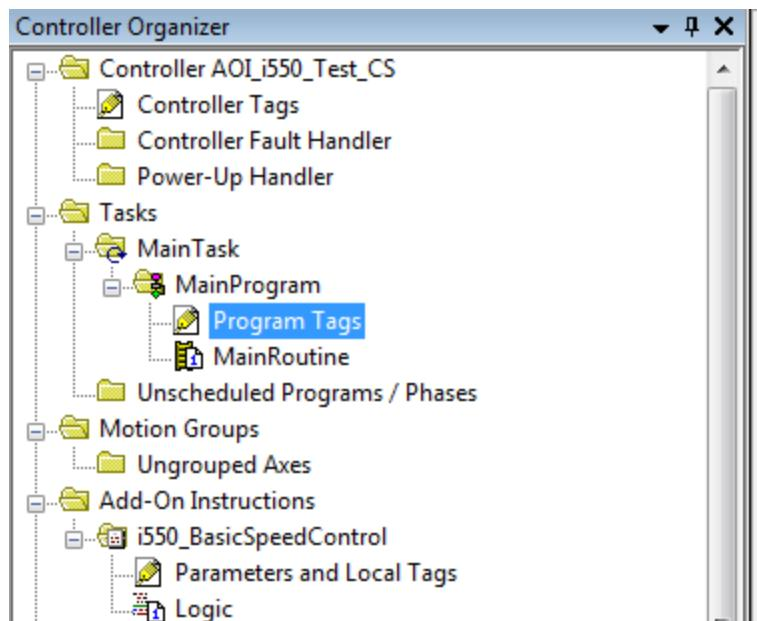

Figure 17: Program Tags
2) Define a tag as the *i550\_ActuatorSpeed* AOI type (Figure17, Figure18).